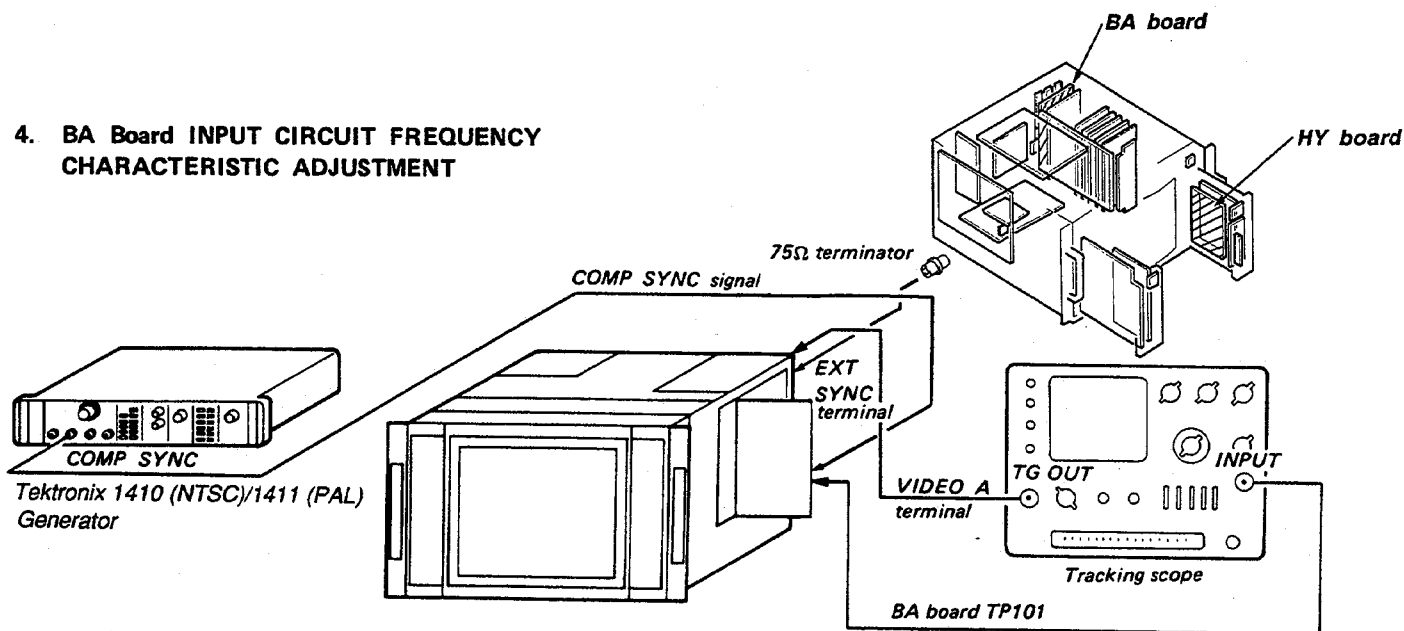
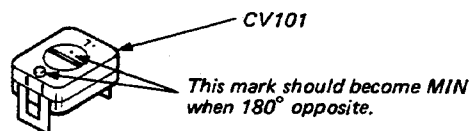

Fig. 4-1
Fig. 4-2
- Complete the connection as shown in Fig 4-1.
- CONTRAST control (FRONT PANEL (R)) ..... Minimum
- BRIGHTNESS control (FRONT PANEL (R)) ..... Minimum
- Adjust CV101 of the BA board so that minimum as shown in Fig. 4-2.